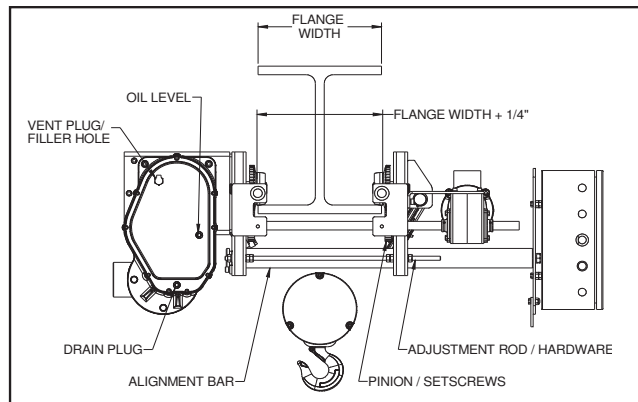

Figure 2-1. Trolley Wheel Spacing
If the trolley can be installed directly from the end of the supporting beam, adjust the spacing between the trolley wheel flanges to be 3/16"-1/4" greater than the exact width of the beam flange (See Figure 2-1). Before adjusting the width of the trolley frame, make sure to loosen the pinion set screws on the keyed cross shaft nearest the traverse drive reducer. Do not lose the keys for the pinion during adjustment. Also, the electrical conduit/cable must not be constrained when attempting to adjust the trolley sides, in or out. The trolley width is adjusted by loosening the jam nuts on the traverse drive side of the threaded rods at each end of the hoist. If necessary, lubricate the frame alignment bars with penetrating oil before attempting to adjust trolley width. The trolley side may then be pushed or driven into position by turning the adjusting nuts on the threaded rods. Adjust nuts on each side of the hoist simultaneously, to avoid binding. After adjusting the trolley to the proper width, tighten all adjusting nuts and setscrews, and re-secure the electrical conduit/cable. Verify that the geared wheels mesh properly with the traverse drive pinions. Using proper equipment, carefully lift the hoist and install on the end of the beam. Lubricate the wheel gear and all pinions (WG, Section IV, Paragraph 4-5).
For trolleys which are to be mounted along the span of a beam not having open ends, the trolley must be adjusted in the same manner as described above to a width that allows clearance between the axle ends and the beam flange. Using proper lifting equipment, the trolley and hoist must then be lifted to the beam where it is to be installed. Once in position, adjust the spacing between the trolley wheel flanges to be 3/16"-1/4" greater than the exact width of the beam flange (See Figure 2-1). After tightening all adjusting bolts, set screws, and all electrical conduit/cable clamps, carefully set the trolley on the beam. Lubricate the wheel gear and all pinions (WG, Section IV, Paragraph 4-5).
- Check Oil Level.** (Figure 2-1) The gearcase has been filled with oil to the proper level. However, this should be rechecked before operating the hoist.
Check oil level by removing the oil level plug indicated in Figure 2-1. When properly filled, oil should be level with the bottom of the tapped hole. Fill to this level with oil as specified in Paragraph 4-2.e.